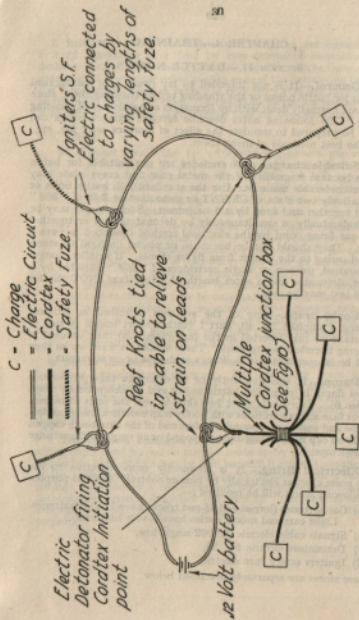

Fig. 20. Diagrammatic layout of electrical circuit for battle noises
6. Detonator electric No. 33.—This consists of a No. 27 detonator (see Sec 5) with an electric firing head on the top. When an electric current of sufficient strength is passed through the head a flash occurs which fires the detonator. A fully charged battery will produce sufficient current to fire a certain number of detonators connected in series with the battery through a given length of cable. The term "in series" means that the detonators are connected up by lengths of cable, the circuit starting at one terminal of the battery, passing through each detonator in turn and finishing at the other terminal (see Fig 20). Table 3 shows the number of No. 33 detonators or igniters which can be fired by standard 6- and 12-volt batteries through different lengths of cable, assuming batteries FULLY CHARGED.